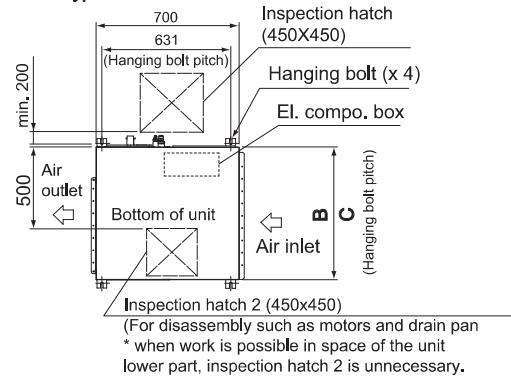

Fig.2-2
(1) Check the relation between location of the ceiling opening and the indoor unit hanging bolts.
- Inspection hatch 1 and 2 (450 x 450) for the el. compo. box and a minimum space of 300 mm at bottom of the product. (Refer Fig. 2-2)